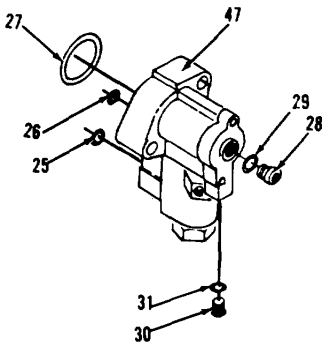

Figure 10-20.
- 13. Remove and discard preformed packings (25 thru 27) from housing (47, Figure 10-20).
- 14. Remove plug (28), preformed packing (29), plug (30) and preformed packing (31). Discard preformed packings (29 and 31).